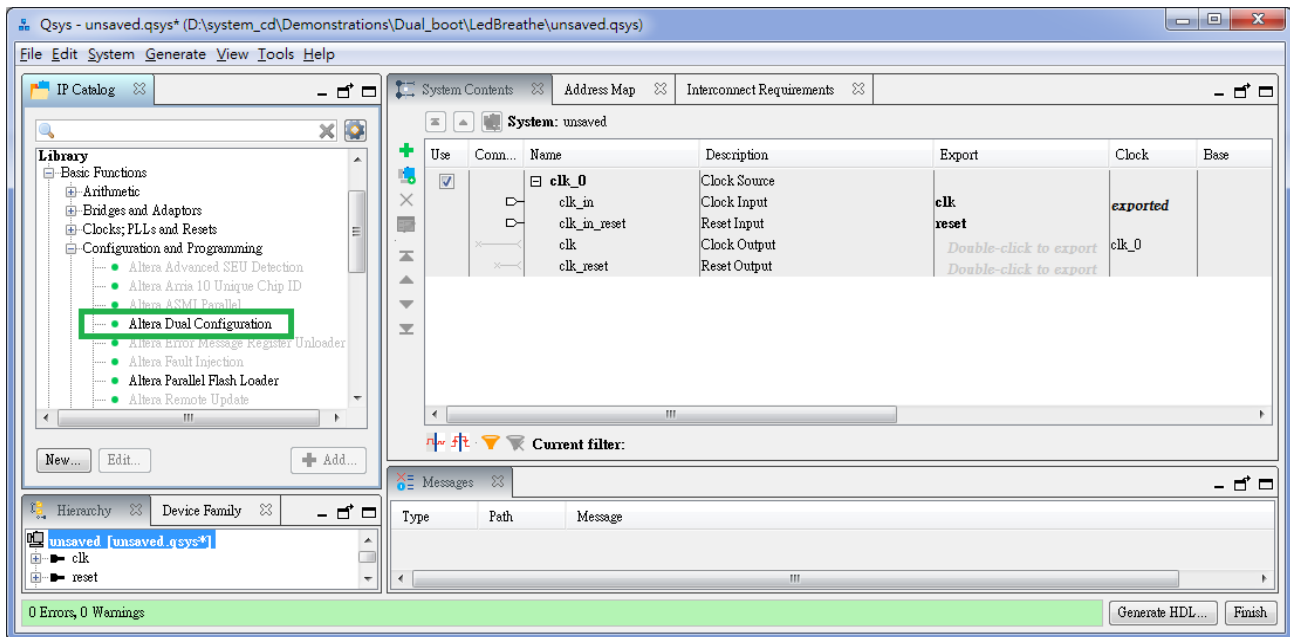
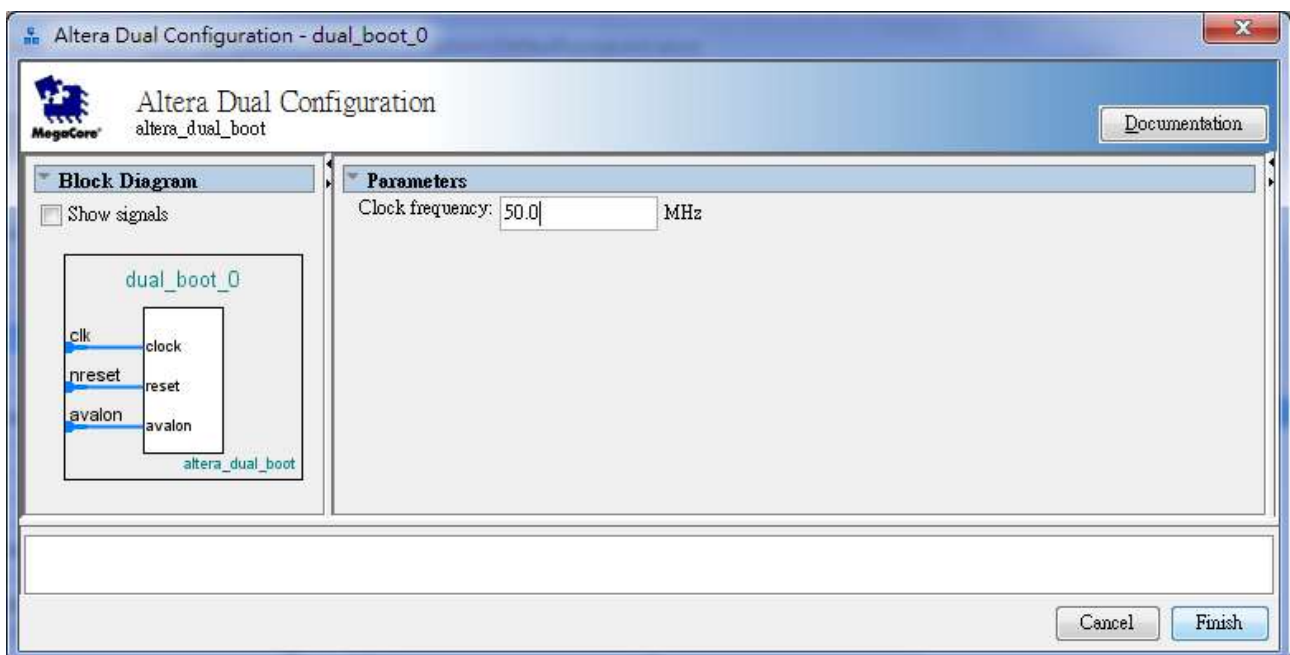

Figure 6-5 Select Altera Dual Configuration IP and click.
Figure 6-6 Open wizard and click Finish.
2. Please choose **Library > Basic Function> Configuration and Programming > Altera Dual Configuration** to open wizard of adding dual boot IP. See Figure 6-5 and Figure 6-6.